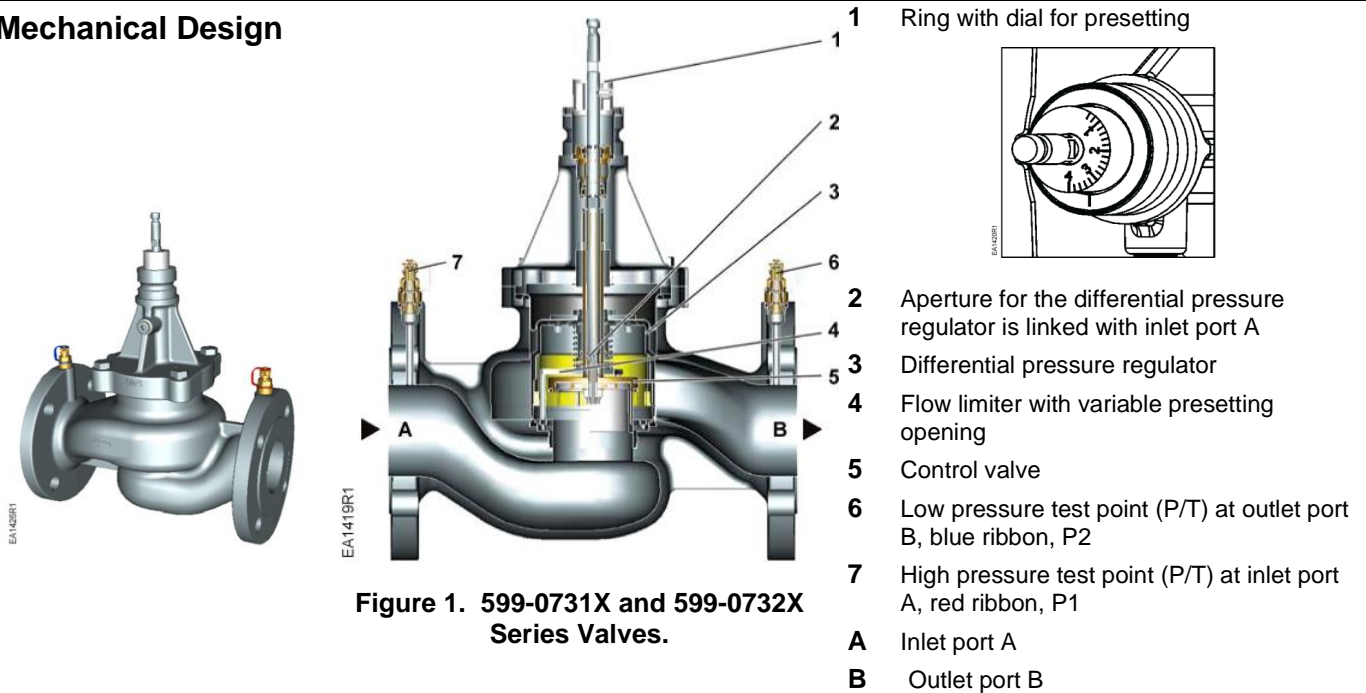
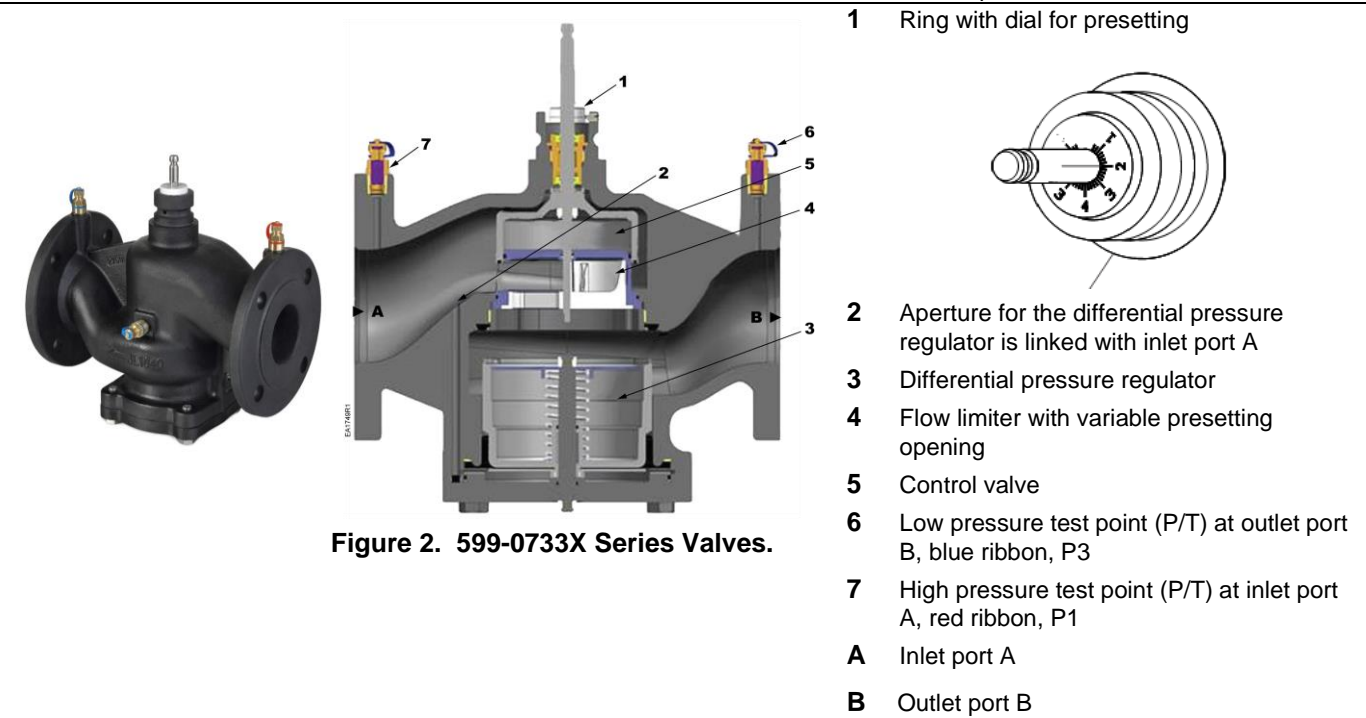
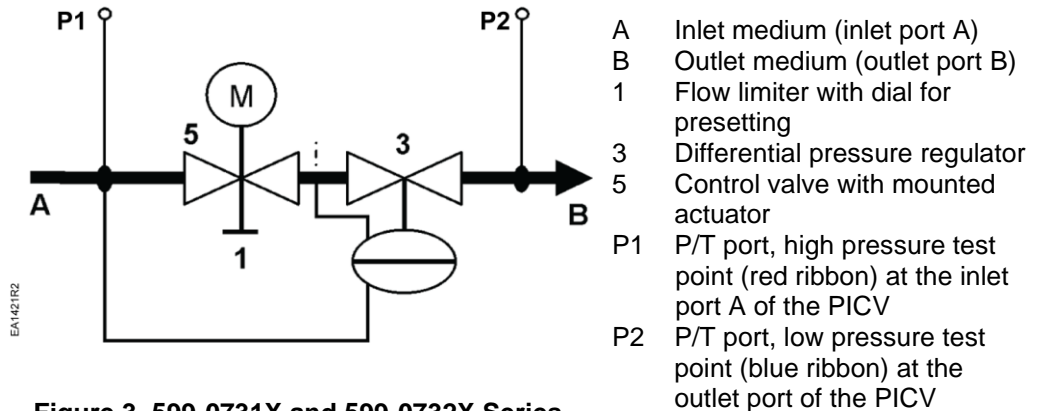
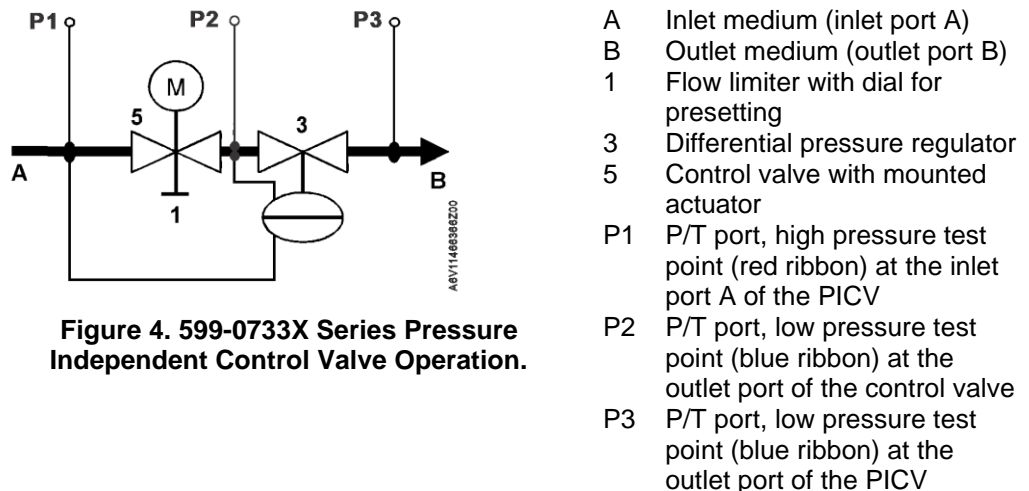

Figure 1. 599-0731X and 599-0732X Series Valves.
Figure 2. 599-0733X Series Valves.
Figure 3. 599-0731X and 599-0732X Series Pressure Independent Control Valve Operation.
Figure 4. 599-0733X Series Pressure Independent Control Valve Operation.
The 599-0731X and 599-0732X Series PICV are equipped with two pressure test points (P1, P2) for measuring the differential pressure across the valve during commissioning or operation. See Figure 3.
The 599-0733X Series PICV are equipped with three pressure test points (P1, P2, P3) for measuring and monitoring the differential pressure across the control valve and across the PICV during commissioning or for analysis during operation. See Figure 4.
The Pressure Independent Control Valves combine three functions (see Figure 3):
The medium entering the Pressure Independent Control Valve (inlet port A) first passes through the variable presetting opening (see Figure 1 and Figure 2) which is connected to the ring with a dial (1) for presetting the desired maximum volumetric flow. The actuator (M in Figure 3 and Figure 4) opens and accurately positions the control valve. Then, the medium flows through control valve (5) with a linear characteristic.